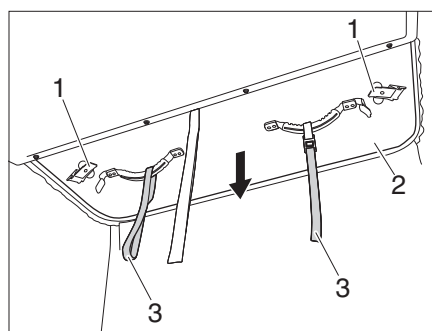
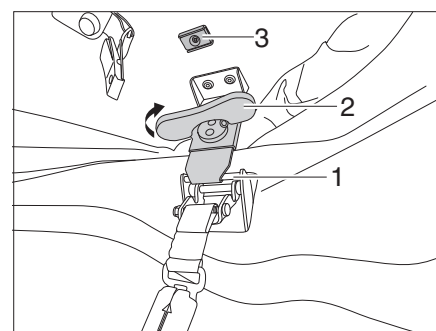

Fig. 40 Pulling the pop-up roof downwards
Fig. 41 Tensioning the locking mechanism
- ▷ Ensure that the locking levers (Fig. 40,1) are attached to the magnet at the top.
- Check whether the locking mechanism are secured by the magnets (Fig. 41,3).
- Use the pulling devices (Fig. 40,3) to pull the pop-up roof (Fig. 40,2) downwards.
- Loosen the locking lever (Fig. 40,1) from the magnet (Fig. 41,3) and attach it into the catch (Fig. 41,1).
- Turn the twist grip (Fig. 41,2) of the locking mechanism clockwise until the locking mechanism is fastened.
- Fold the twist grip (Fig. 41,2) upwards.